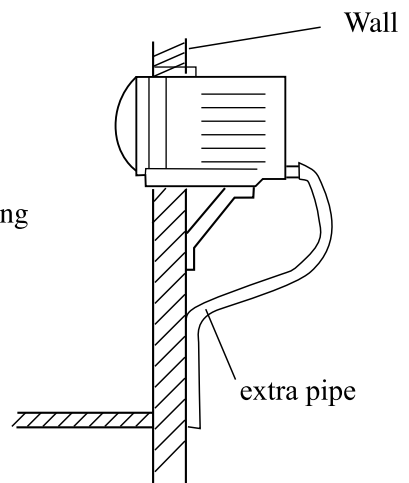

Fig. 4
7. After installation of all the accessories, put the whole machine on the iron frame. If there's extra pipe, lead the pipe to needed position (see Fig.4).